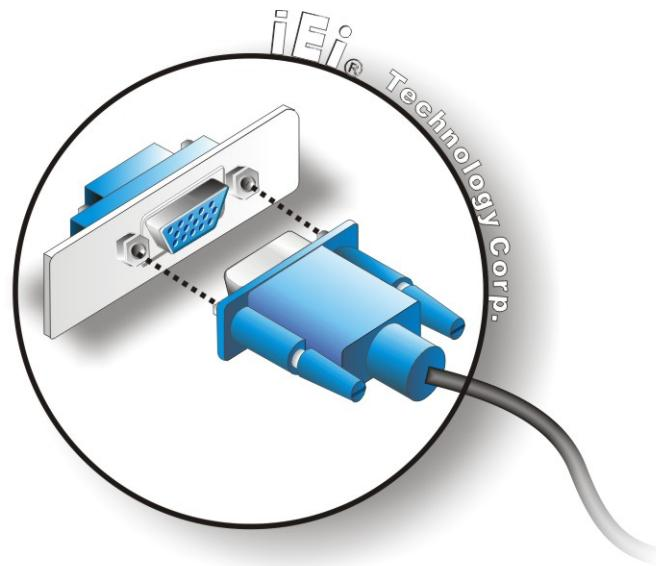

Figure 5-18: VGA Connector
Step 3: Insert the VGA connector Once the connectors are properly aligned with the insert the male connector from the VGA screen into the female connector on the WAFER-LX3. See Figure 5-18.